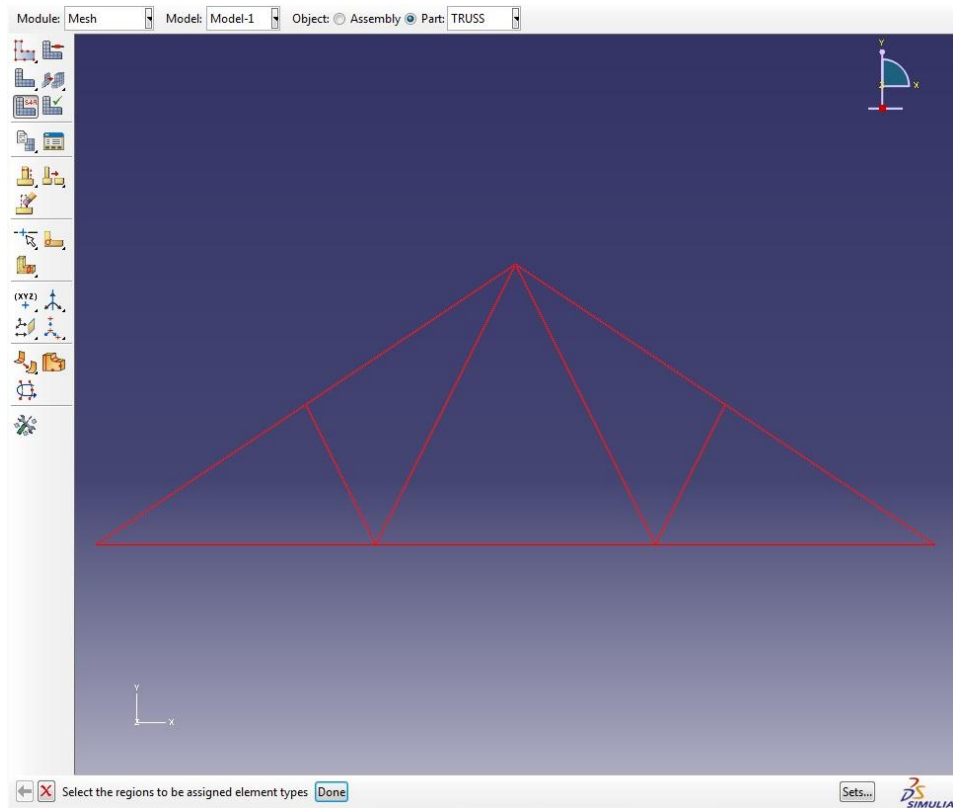

Figure 14. Assign Element Type
- Using the cursor drag the mouse while holding the left mouse key down to create a box around the whole geometry. If this drag is done correctly, then the part will turn from pink to red (Figure 14).